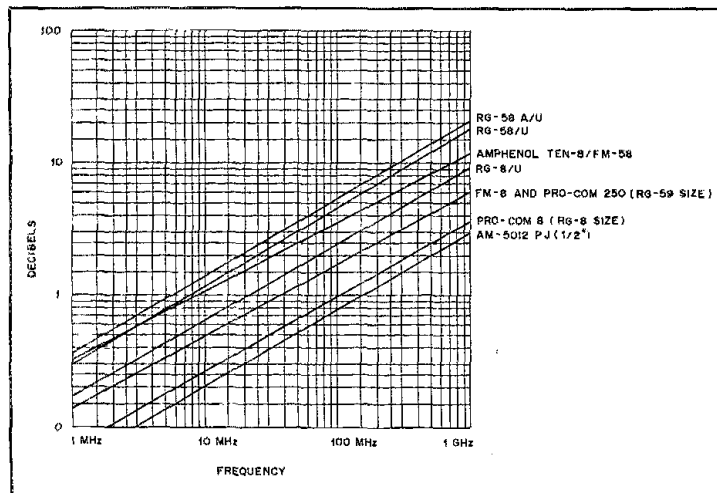

Fig. 5 — Nominal loss characteristics per 100 ft (30.48 m).
Down-line attenuation of cables is controlled by (1) the type and material of the center conductor; (2) the velocity of propagation and type of material of the center dielectric; and (3) the type and material of the outer conductor. An examination of the loss curves of Fig. 5 shows that RG-58 A/U exhibits loss characteristics from 11% to 12% more than that of RG-58/U. The only difference between these two cables is the nature of the center conductor. RG-58 A/U has a 19-strand tinned-copper center conductor. Both the stranding and tinning increase attenuation. Tinned copper is very popular with antenna manufacturers because it simplifies soldering. But, considering attenuation tinned-copper shields
Another example that can be drawn from Fig. 5 is loss differentials (approximately 33%) between RG-8/U and FM-8 (Flexifoam by Times Wire). RG-8/U utilizes a 7-strand bare-copper center conductor and a 66% velocity core dielectric as opposed to a solid bare-copper center conductor and 79% velocity center core. It should be noted that in order for the FM-8 to possess a 50-ohm characteristic, the center conductor must be enlarged to 0.102 inches (2.59 mm) or no. 10 gauge vs. 0.0808 inches (2.05 mm) or no. 12 gauge for the center conductor on RG-8/U. As the velocity of propagation of a coaxial cable is increased while maintaining the same inside diameter of the shield, the center conductor must be increased in size in order to maintain the same cable impedance.